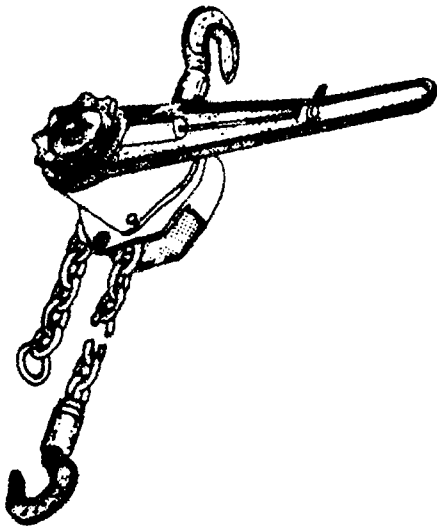

Fig. 7-1f Come-along
- f. Come-alongs are designed with either chain or wire rope. They are normally light in weight and come in a variety of sizes. Come-alongs are reversible so the load may be raised or lowered (See **Figure 7-1f.**)